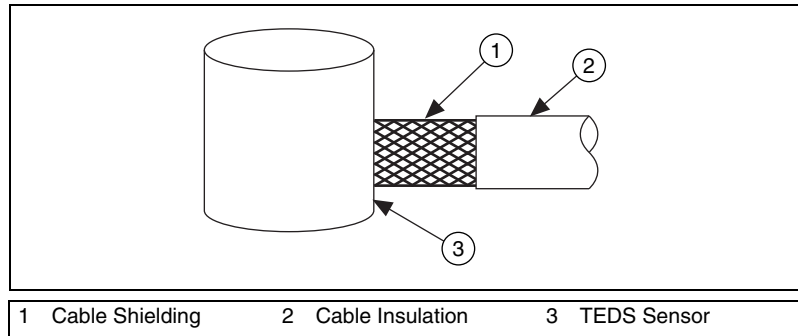

Figure 9. Attach the Shielding to the TEDS Sensor
- Attach the cable shielding to the TEDS sensor as shown in Figure 9.